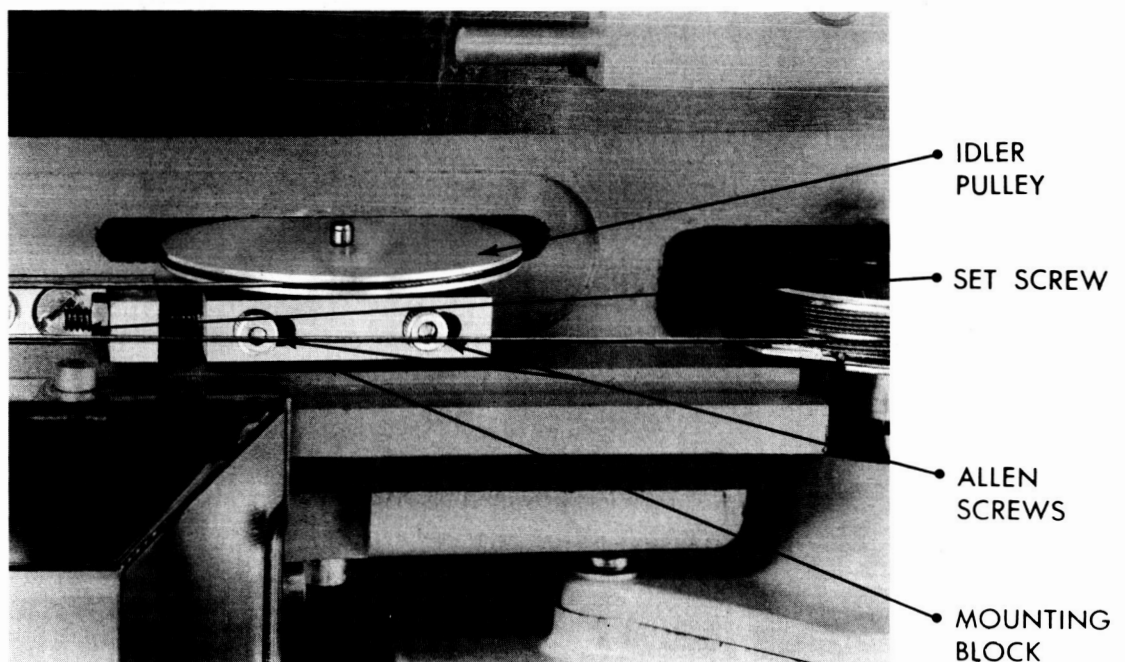

Figure 5-6. Idler Pulley Adjustment.
- a. Loosen the idler pulley adjustment set screw, located on the left side of the mounting block, to move the mounting block to the extreme left position. (See Figure 5-6).